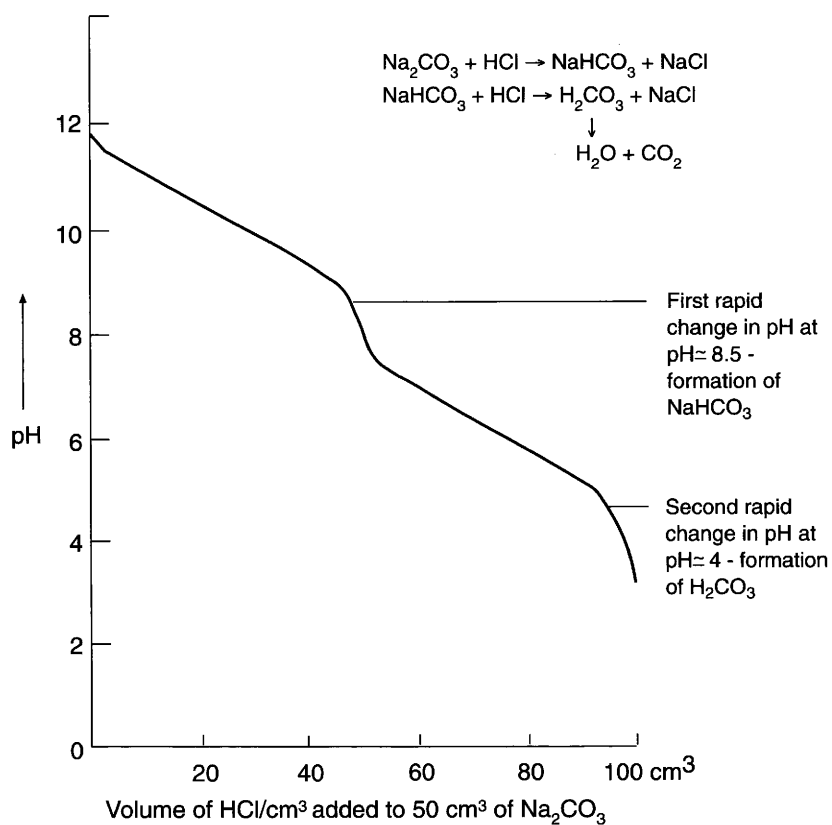

Fig 3 Titration curve for sodium carbonate ($0.100 \text{ mol dm}^{-3}$) with hydrochloric acid ($0.100 \text{ mol dm}^{-3}$)
14. Using the information from the titration curve in *Figure 3* and the information about some indicators in Table 1, plan in detail a method for determining the purity of a sodium carbonate sample obtained from the manufacturers.